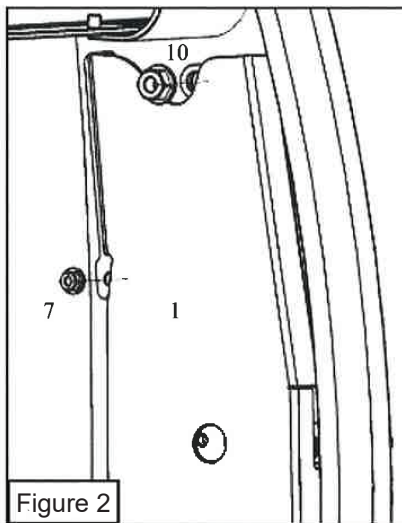

Figure 2
2. Place wire covers (Items 1 and 2) shown in Figure 2.
3. Install M6 flange nut (Item 7) and M10 flange nut (Item 10) as shown in Figure 2.